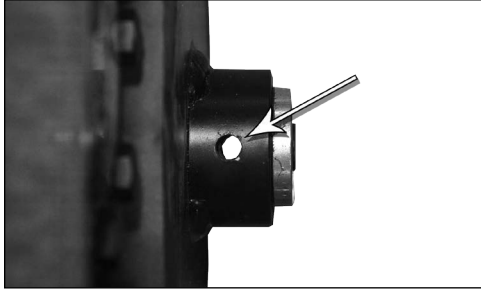

FIG. 3
1. Line up wheel hub hole and axle hole (Figure 3).